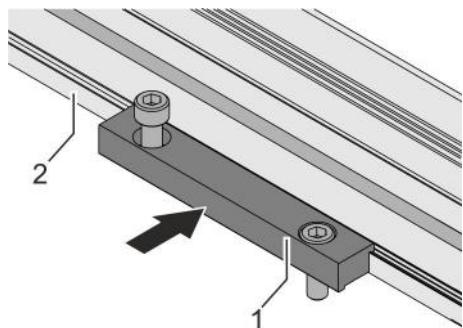

Fig. 12: Inserting clamping bars
1. ➔ Insert clamping bars (Fig. 12/1) into the slot of the guide profile.
Depending on the length of the linear unit, 2 or more clamping bars must be inserted on each side of the guide profile (Fig. 12/2).